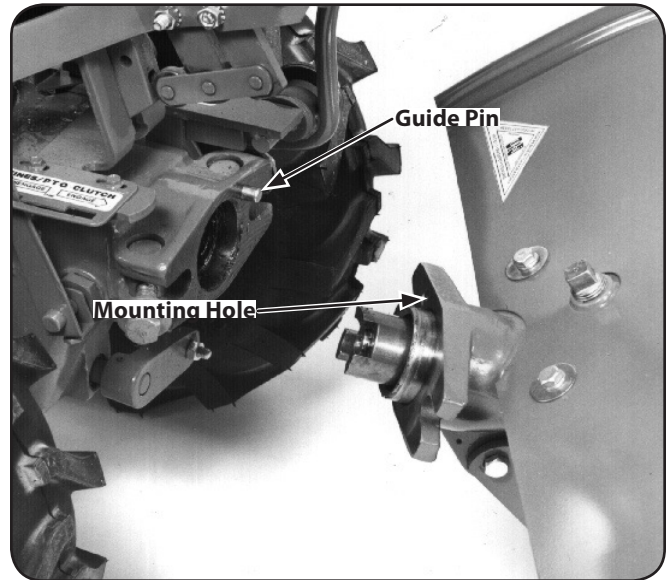

Figure 4-23
- The guide pin on the power unit will slide out of the guide hole in the tine attachment. See Fig. 4-23.
- Carefully align the guide pin on the PTO Power Unit with the alignment hole in the tine attachment and bring the two units together. See Fig. 4-23.